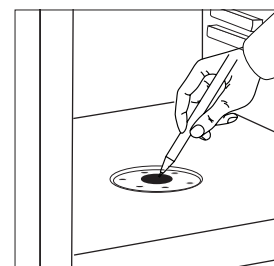

Figure 5
5. Turn safe back onto its feet and place your safe in the desired location for mounting, then make a mark through the hole onto the floor surface creating a drilling guide (Figure 5).